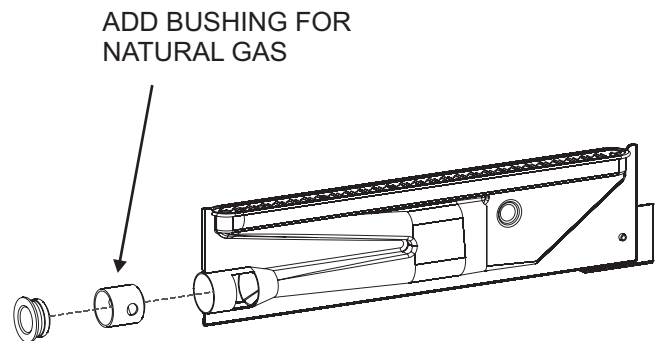

Figure 36
8. Remove front burner (one (1) screw).
10. Insert natural gas front burner bushing into throat (Venturi) of front burner. See Figure 36.
11. Replace front burner with one (1) screw from Step 8.
12. Remove rear burner (one (1) screw).
14. Replace rear burner with one (1) screw from Step 12.
16. Install log plate into fireplace with twelve (12) screws from Step 7.
18. Close front door by securing four (4) door latches.